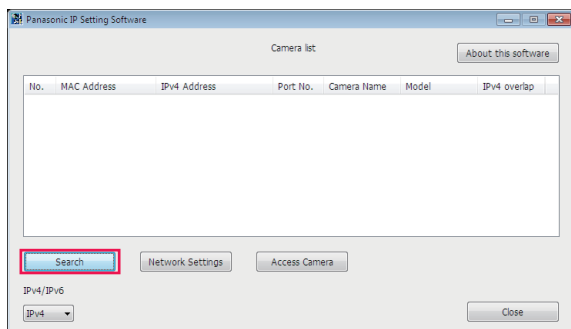
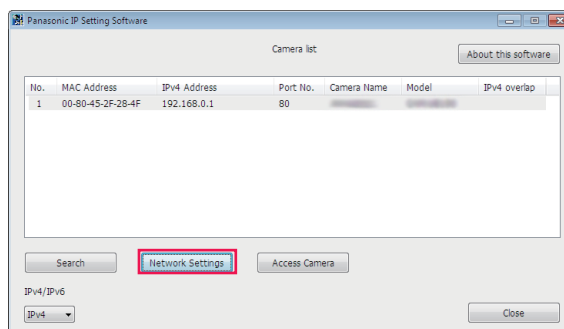

Fig. 1
Fig. 2
**2** Click [Search]. (Fig. 1)
**3** Click the MAC address/IPv4 address of the camera to set, and then click [Network settings]. (Fig. 2)
- [View Camera Screen] displayed on Fig. 1 and Fig. 2 does not function on this camera.